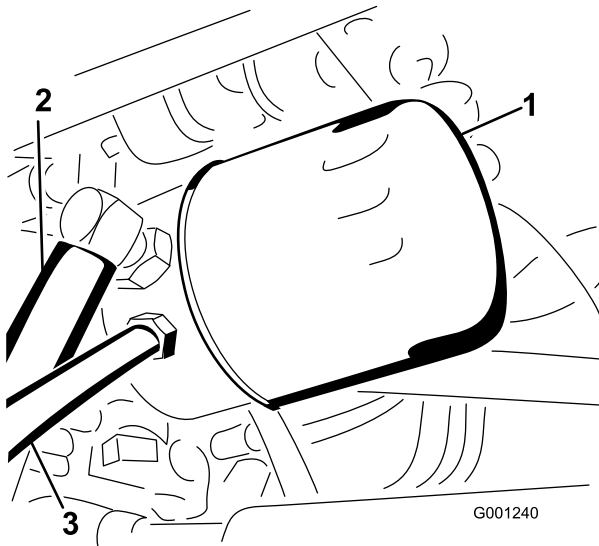

Figure 56
3. Clean the area around the hydraulic oil filter and remove the filter (Figure 56).